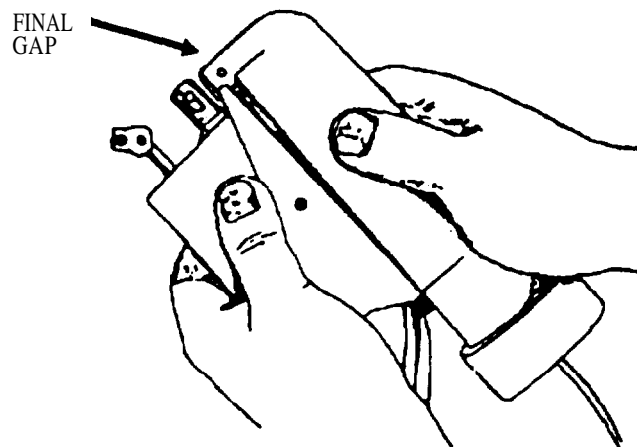

Figure 2-14. Final Gap of the MROD-06
- (a) Slide the intake/reject hose (11) over the barbs on the pump body (19). Push them on as far as they will go. Clamp it in place with the hose clamps, then tighten the clamp with pliers.
- (b) Set the pump cover (21) upside down on a flat surface. Fit the pump body into the cover so that it contacts the top and lays flat.
- (c) Fit the relief valve stem (See Figure 2-14) into the matching hole in the side of the cover. Do this by either spreading the cover apart with your fingers and snapping the relief valve into place, or by solidly tapping down on the relief valve using a soft, blunt object.
When you close the final gap at the sleeve end, be very sensitive to how the O-ring on the nub is fitting into its hole in the pump body. See Figure 2-14. There is a right "feel" to the fit: generally, if you fit it improperly, you will have to force the cover down into place, and it will tend to spring back up.